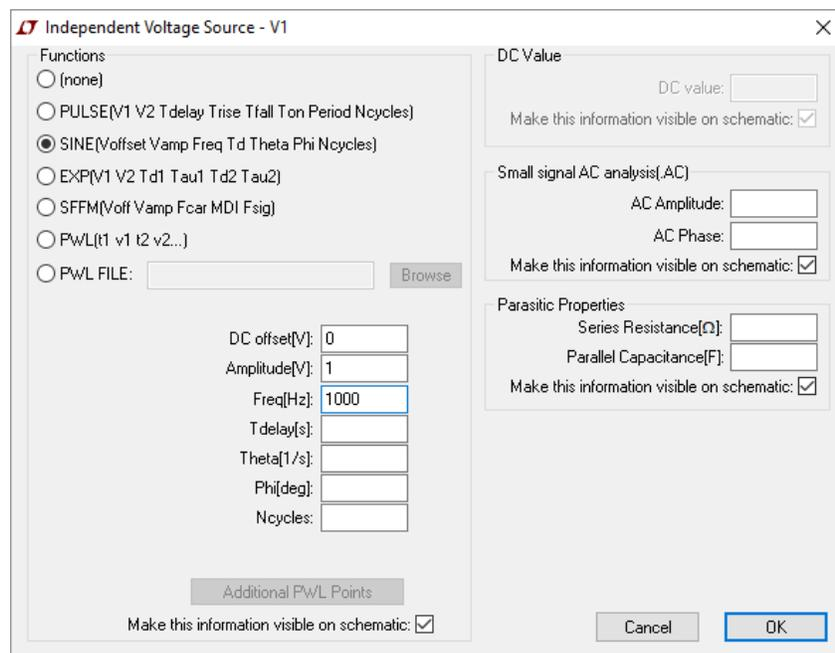

Fig. 6. Sine wave voltage source parameters.
- Leave all others blank. You should have values appearing as in Fig. 6.